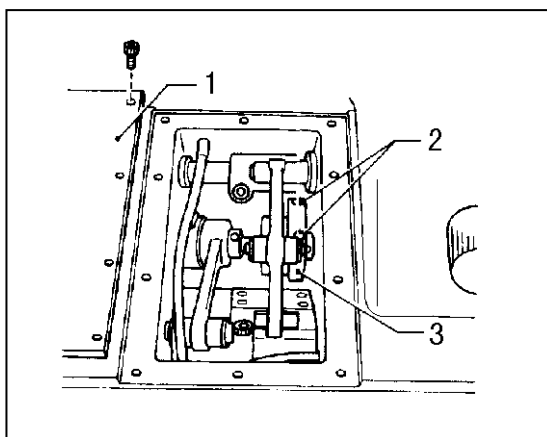

Fig.28
### (1) Horizontal feed direction (shown by Fig.28)